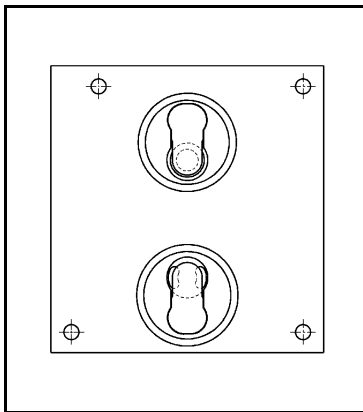
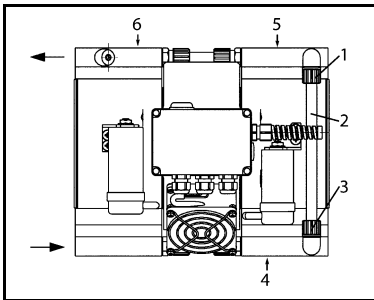
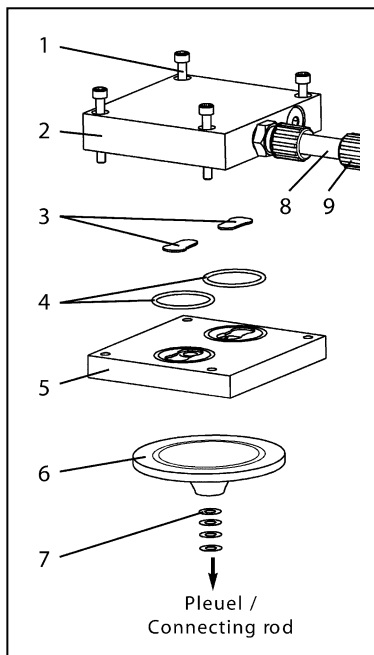

Fig. 18: Position of valve plates
Fig. 19: Pneumatic connection between pump heads 2 and 3 (Example N 940.5 APE)
Fig. 20: Replacing diaphragm and valve plates (3. and 4. pump head)
**i** Second pump head: See position (4) in Fig. 19.
Additional step: At the pneumatic connection between pump heads 2 and 3 (2, Fig. 19) use pliers to turn union nuts (1) and (3) counterclockwise, thereby loosening them.
1. At the pneumatic connections (2, Fig. 19) between the second (4) and third (5) pump head: Use pliers to loosen union nuts (1) and (3) by turning them counterclockwise.
2. At the third pump head (5, Fig. 19) mark the position of head plate (2, Fig. 20), intermediate plate (5) and pump housing relative to each other by a drawing line with a felt-tip pen. This helps to ensure proper assembly.
3. At the third pump head unscrew the four screws (1, Fig. 20) and remove the head plate (2).
1. Remove the two valve plates (3, Fig. 20), the two O-rings (4) from the intermediate plate (5).
**i** The O-rings may also stick to the underside of the head plate (2).
2. Check valve seats and intermediate plate (5) for soiling and damage. Clean the parts if necessary.
4. Lay new valve plates (3) in the valve seats of the intermediate plate (5). See Fig. 18 for position.
5. Lay the two new O-rings (4, Fig. 20) in the seats of intermediate plate (5).
1. Place the intermediate plate (5) with valve plates (3) and O-rings (4) on the pump housing in accordance with the felt-tip pen marking.
2. Place the head plate (2) on the intermediate plate (5) in accordance with the felt-tip pen marking. In doing so, pull the pneumatic connections (2, Fig. 19) onto the two screw fittings in the head plate of the second pump head (4) and the third pump head (5). Do not yet tighten the union nuts (1) and (3).
3. Make sure that the pump housing, intermediate plate (5, Fig. 20), and head plate (2) are flush with each other.
4. Tighten the four screws (1) diagonally hand-tight.
5. Use pliers to securely tighten (turn in clockwise direction) the two union nuts (1, Fig. 19) and (3) at the pneumatic connection between pump heads 2 and 3.
**i** Fourth pump head: See position (6) in Fig. 19.
Then use pliers to securely tighten (turn in clockwise direction) the union nuts (9, Fig. 20) at the two pneumatic connections (8) between pump heads 3 and 4.